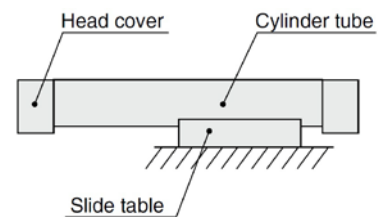

Fig. 5 Mounting in a cantilevered way
- Consult with SMC when mounting in a cantilevered way (Fig. 5). Deflection of the cylinder tube may cause malfunction.